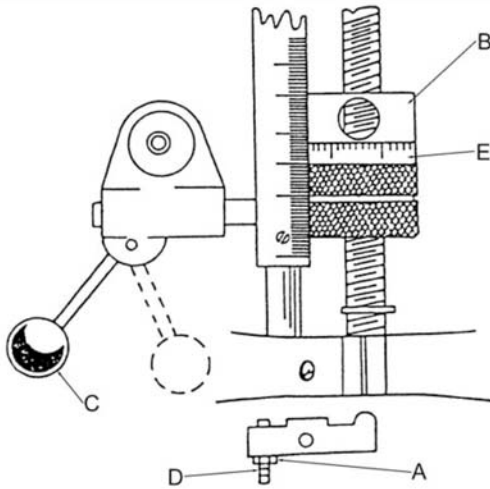

Figure 13
1. Loosen lock nut (A, Fig. 13).
- Engage trip handle (C, Fig. 13) by pulling away from head assembly.
- Adjust micro nuts (E, Fig. 13) against quill stop (B, Fig. 13).
- Slowly turn adjusting screw (D, Fig. 13) until lever (C, Fig. 13) trips.
- Tighten lock nut (A, Fig. 13)